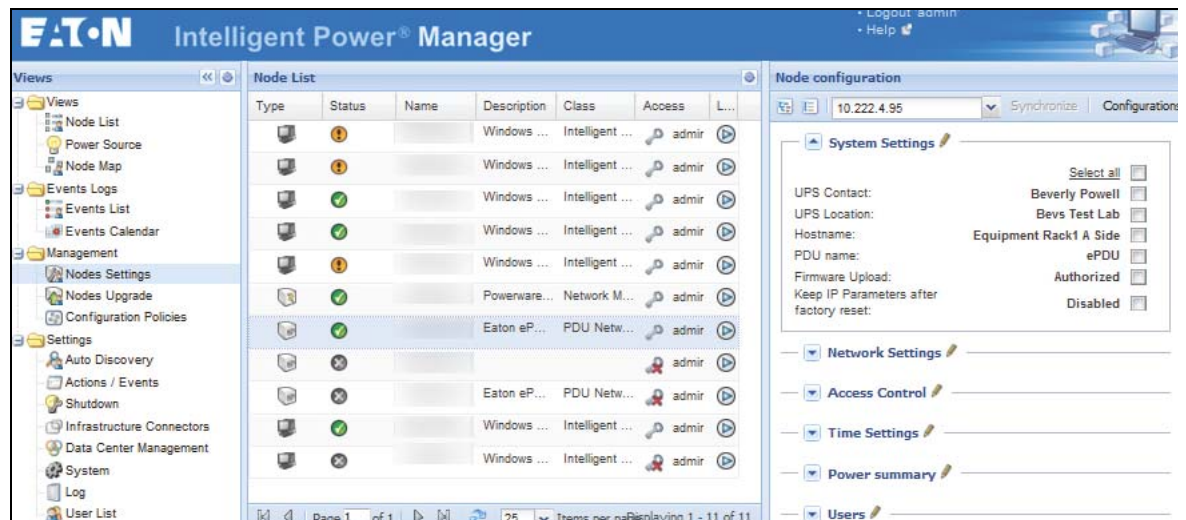

Figure 84. Nodes Settings View
2. Select one node (card) from the Node List page (see Figure 84).
2. Select one node (one card) from the Node List page (see Figure 84).